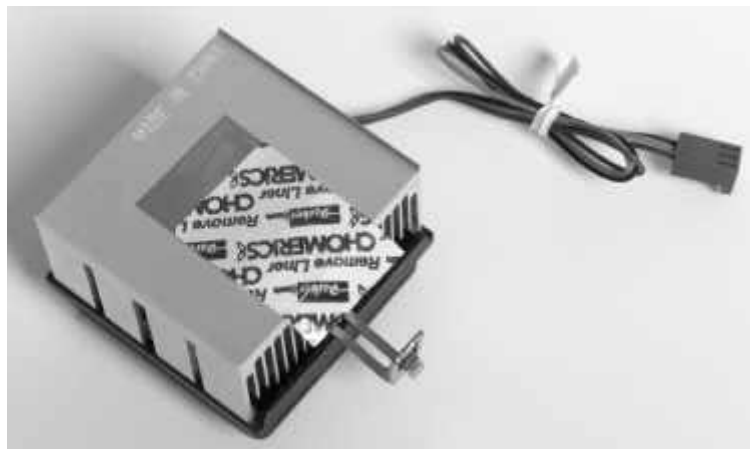
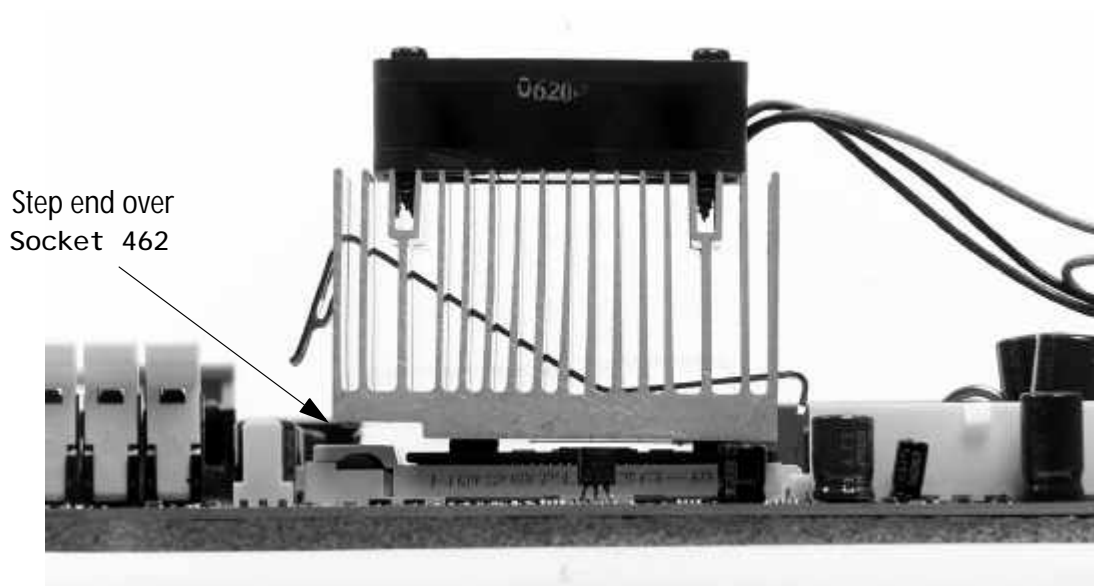

Figure 8. Underside of Small-sized Heatsink with Flat Bottom Surface
Figure 13. The Heatsink Partially Installed and Resting on the Rubber Pads
8. Figure 8 shows the bottom of the smallest heatsink from the previous page. This heatsink has a flat bottom and its placement on the processor is determined by the asymmetrical retaining clip used to hold the heat sink to the processor (Figure 13 shows an example of an asymmetrical clip).
13. Figure 13 shows a side view of the heatsink with the clip installed on the center socket lug at the bottom of the socket. Notice how the heatsink rests on the rubber pads and not on the processor itself. When the retention clip is fully installed, the rubber pads are compressed and the heatsink will then touch the surface of the processor die.
Note: Figure 13 illustrates the end of the clip, which goes over the top of the socket (the portion of the socket that reads “Socket 462”), is much longer than the other end. The clip is formed asymmetrically so that the pressure point is directly over the processor die. Although in the photo it seems like the clip is too far to one side, when the other side is installed, the clip contact point is centered over the processor die.